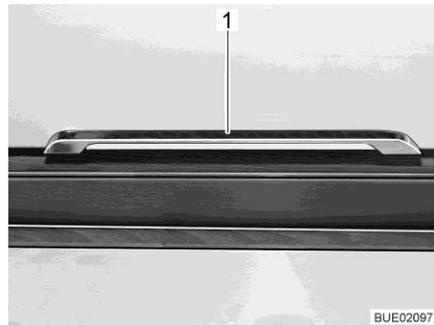

Fig. 86 Release handle
- Press the release handle (Fig. 86,1) upwards, to the side or downwards depending on the fitted position and hold it down.